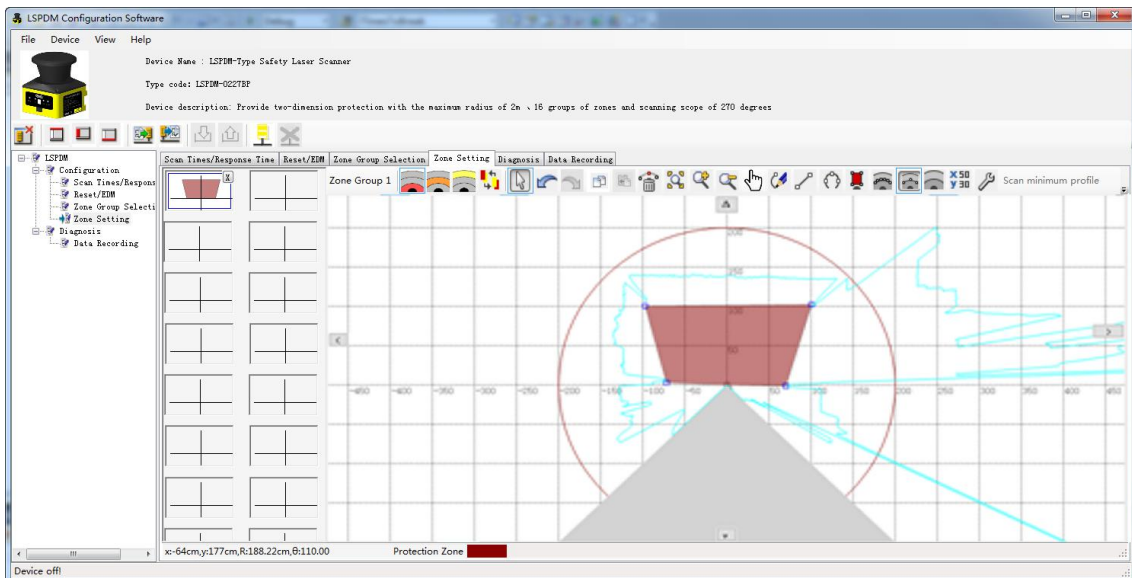

Fig 3.2.5 Drawing protective zone according to test piece location
Step②: Click **【Stop scanning】** on the toolbar, refer to the specimen locations and surroundings outline, and finish drawing boundary outline by using the drawing tools, as shown in Fig.3.2.5: